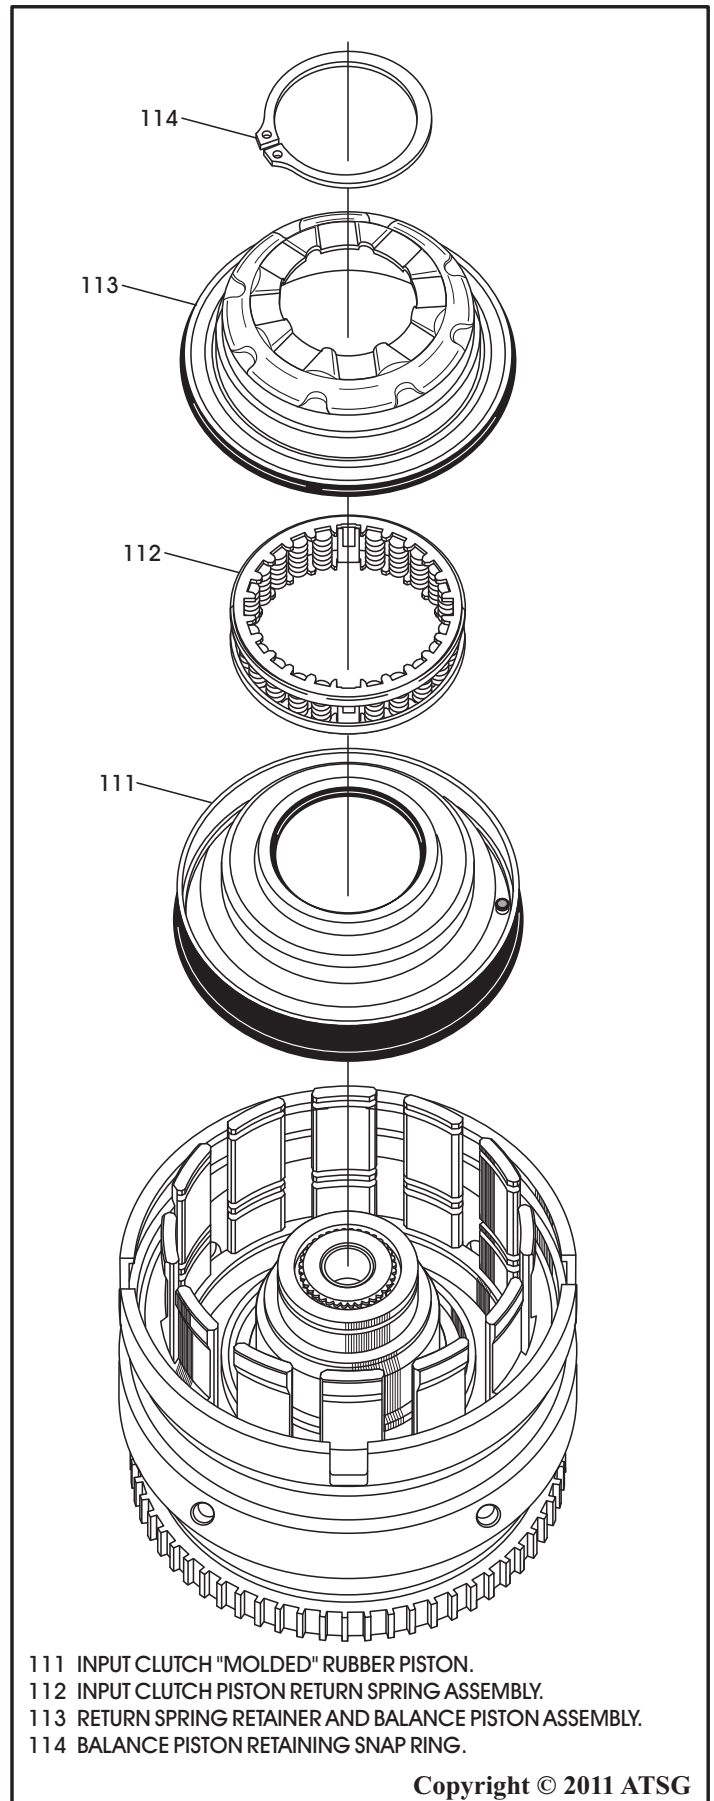

Figure 100
17. Install the input clutch "molded" rubber piston in the input clutch retainer, as shown in Figure 100.
18. Install the input clutch piston return spring on top of the input clutch piston (See Figure 100).
19. Install the spring retainer/balance piston, as shown in Figure 100. The balance piston also has a "molded" rubber seal.
20. Using a suitable shop press, compress return spring assembly and install the flat snap ring into the groove. Refer to Figure 100 and snap ring chart in Figure 94.
24. Install the underdrive/overdrive backing plate upper *tapered* snap ring into the housing with the tapered side facing up (See Figure 100).